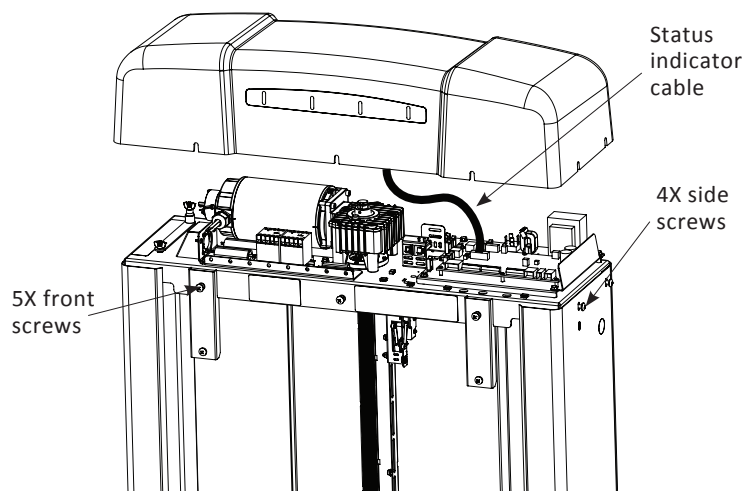

Figure 6-8
1. Loosen seven (7) screws around the perimeter of the top cap with a Phillips head screwdriver.
2. Lift the top cap partially and disconnect the cable between the top cap at the control board. Set the top cap aside. **See Figure 6-8.**